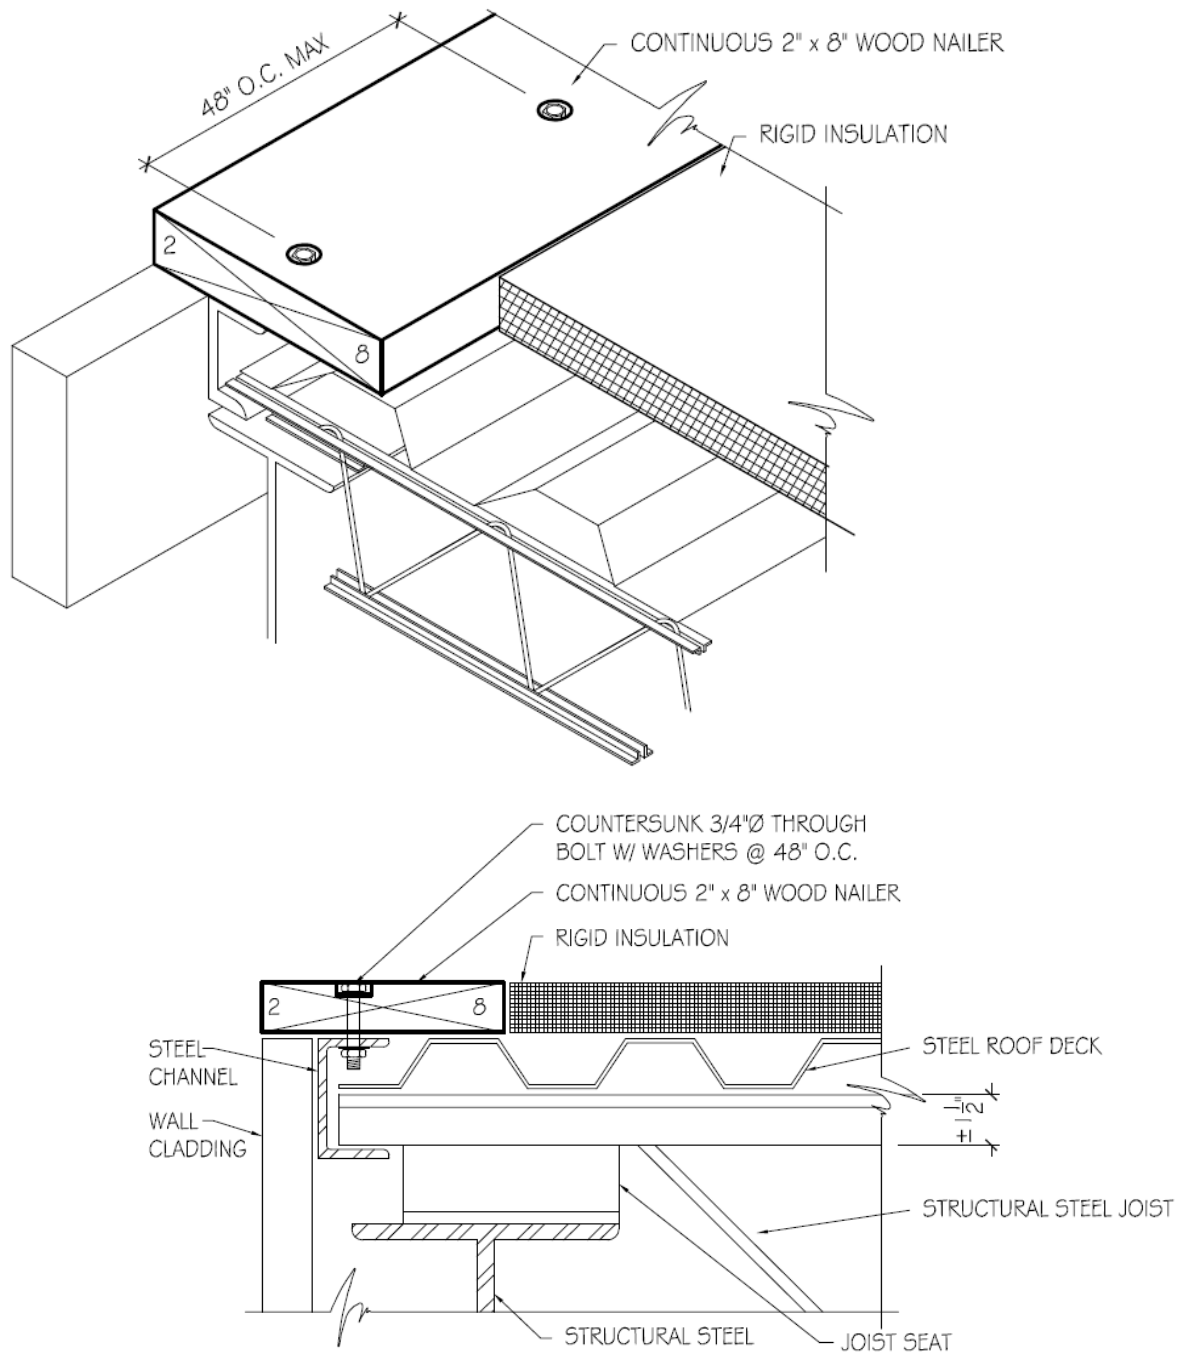

FIGURE 4 - ROOF EDGE WOOD BLOCKING - THROUGH BOLT ANCHORS
- If the perimeter nailer is to be secured to a steel angle, anchor bolts must be positioned at 48 inch centers as shown in **Figure 4**.